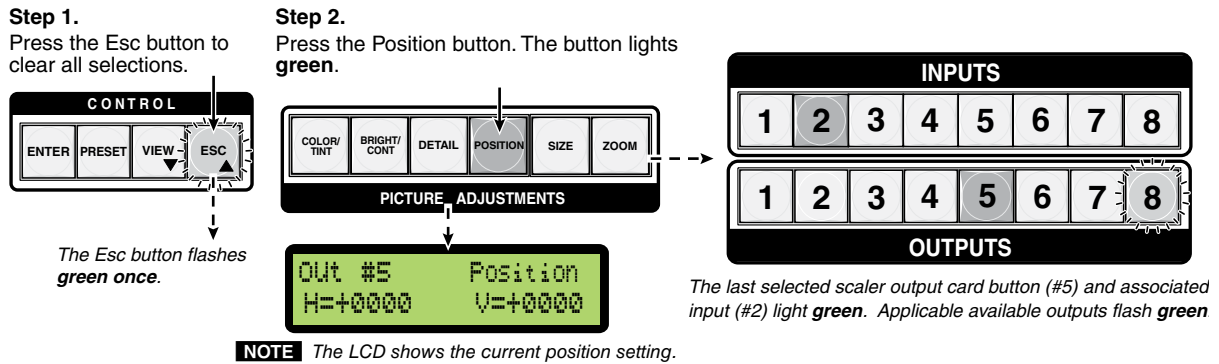

Figure 3-36 — Steps 1 and 2 for adjusting picture position
2. Press and release the Position adjustment button. The output buttons for scaler / scan converter cards (outputs 3 through 8) and any associated (tied) input buttons light solid green. Untied outputs flash green. The LCD panel shows the current position setting (see figure 3-36) for that lit output.